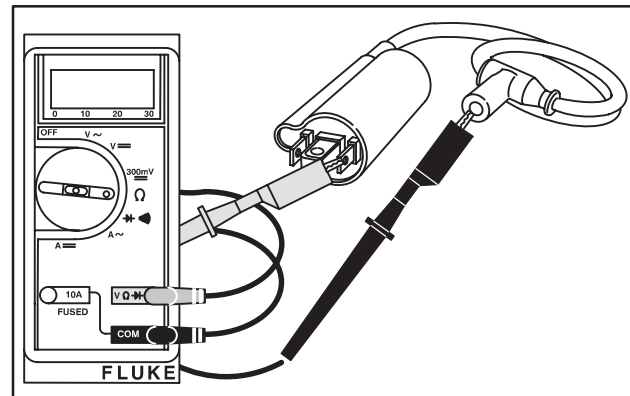

Fig. 8 – Testing Ignition Coil Secondary
2. Check coil secondary resistance between **+** terminals and spark plug lead as shown in Fig. 8.